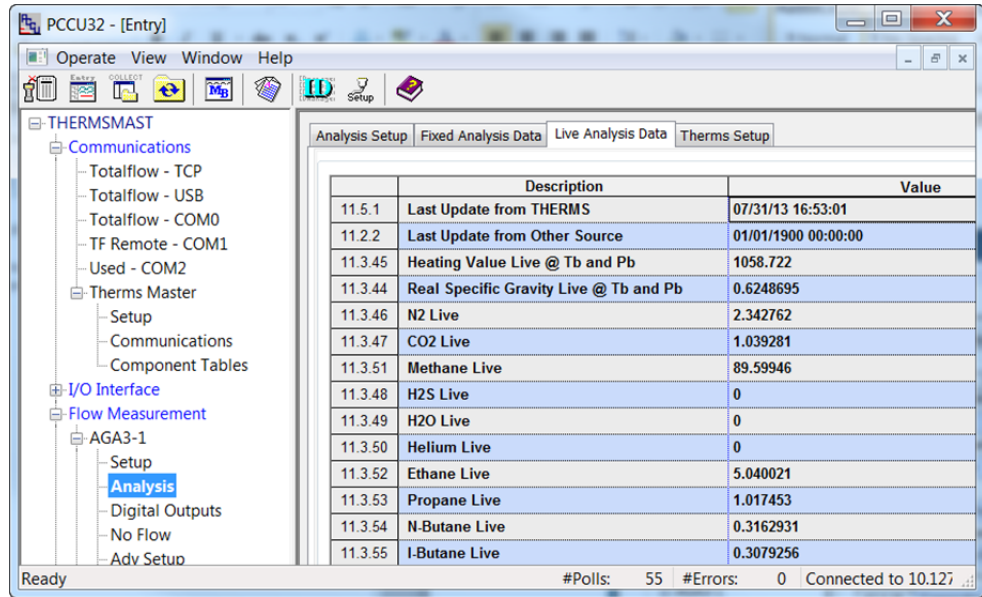

Figure 56. Verify measurement tube receives analysis data
- 9) Verify the application is receiving data by going to the *Live Analysis Data* tab. Click Re-read or check the Monitor box to verify that updates from Therms are received and the analysis values are displayed. Update frequency depends on the analysis cycle. See Figure 56.